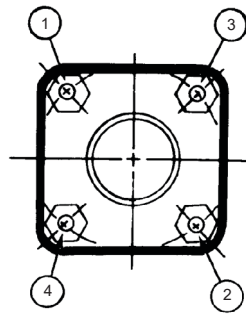

FIGURE 1
*Bolt torque is vital to the proper operation of a sight flow indicator. Gaskets compress over a period of time; therefore, bolt torque should be checked, and bolt torque values should be brought up to those recommended in Table 2 by following the bolt tightening sequence Figure 1.*